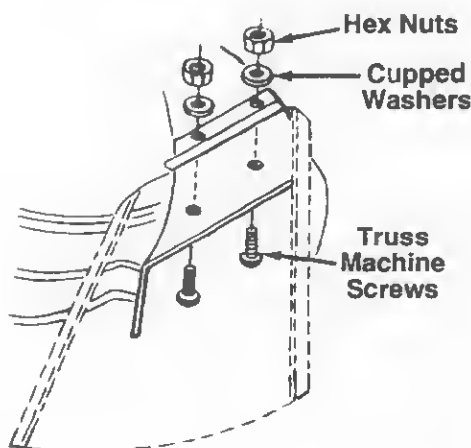

FIGURE 4.
3. Place the chute deflector in position as shown in figure 4. Secure with hardware just removed. Cupped side of washers goes against the chute deflector.